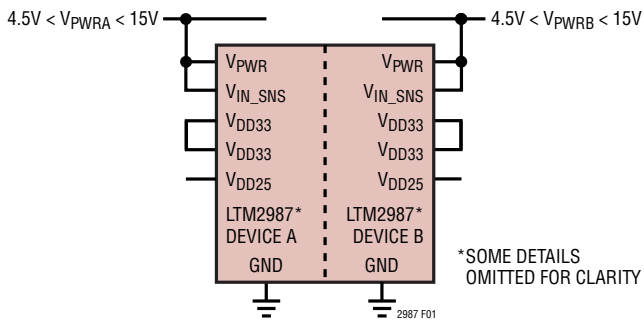

Figure 1. Powering LTM2987 Directly from an Intermediate Bus
The LTM2987 can be powered two ways. The first method requires that a voltage between 4.5V and 15V be applied to the V_{PWR} pin. See Figure 1. Internal linear regulators convert V_{PWR} down to 3.3V which drives all of the internal circuitry in each device. Do not tie the VDD33(A) and VDD33(B) pins together since each half of the LTM2987 has independent voltage regulators.